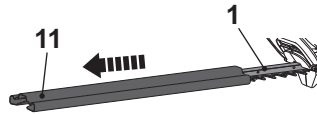

Fig. 1
1. Remove the blade cover (11) from the cutting device (blade) (1) before operation (Fig. 1).
2. Keep the blade cover (11) safely.